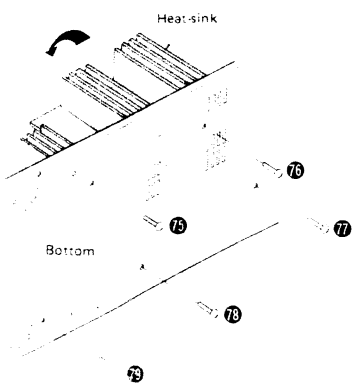
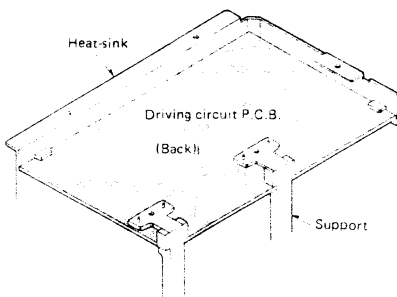

Fig. 19
Fig. 20
2. Remove the 3 setscrews (Fig. 19 : ㉚ ~ ㉜) of the heat-sink and 2 setscrews (Fig. 19 : ㉝, ㉞) of the printed board support, shift down the board in the direction of the arrow and check it from the back side. (Fig. 20)